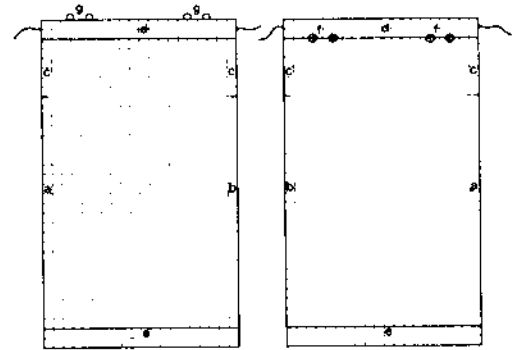

FIGURE 8
**Sewing instructions:** See Fig. 8.